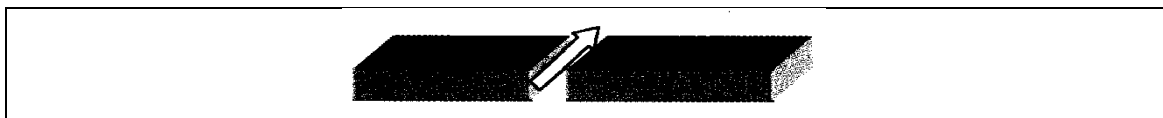

FIGURE 1.10
1.10 Which welding position is illustrated in FIGURE 1.10?